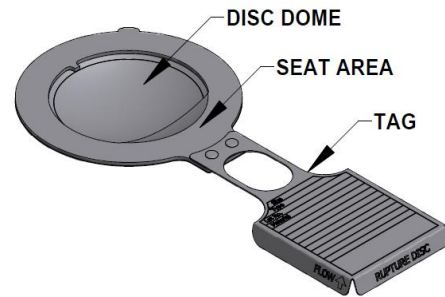

Figure 1 - Check for Damage
2. Inspect the rupture disc for damage. Look for dents, scratches or dings in the seat area or dents in the dome of the rupture disc (See Figure 1).